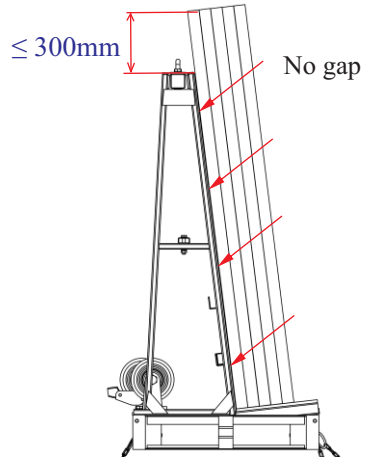

Figure 2.3
- The stone slabs must lean against the frame (Figure 2.3).
- The height of the slab shall not be more than 300mm from the top of the A-frame (Figure 2.3).